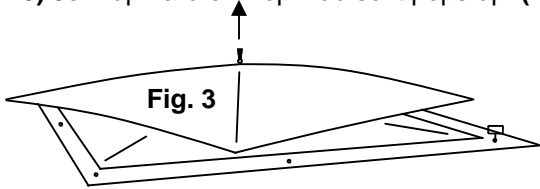

Fig. 3
3) Jerk up hard on Top Hub so it pops up. (Fig. 3)